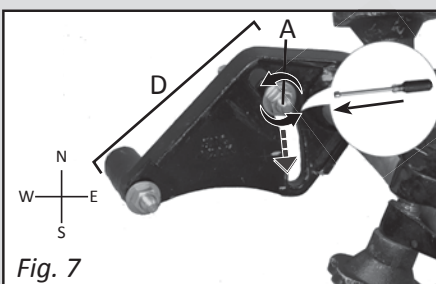

Fig. 7
- A. Adjust torch arm assembly (D, Fig. 7) by loosening the 9/16" nut. (A, Fig. 7)
A-1. Adjust torch arm assembly (D, Fig. 7) to most southern point.
A-2. Tighten 9/16" nut. (A, Fig. 7)